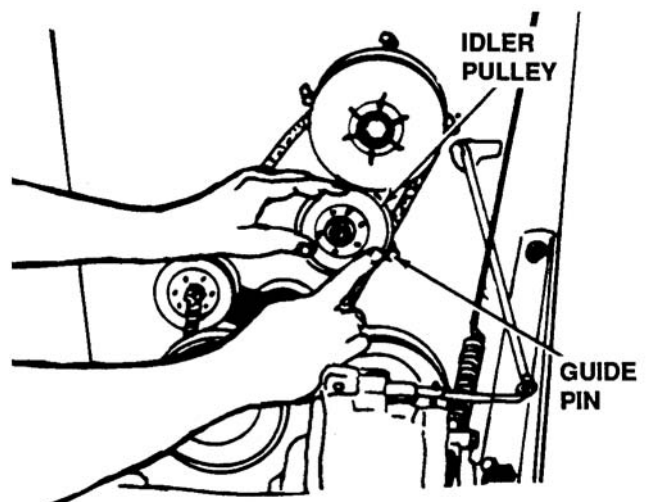

Figure 7-20. Location of Guide Pin
12. When sliding the idler pulley on the idler bracket, be certain the belt is between the pulley and guide pin. See Figure 7-20.